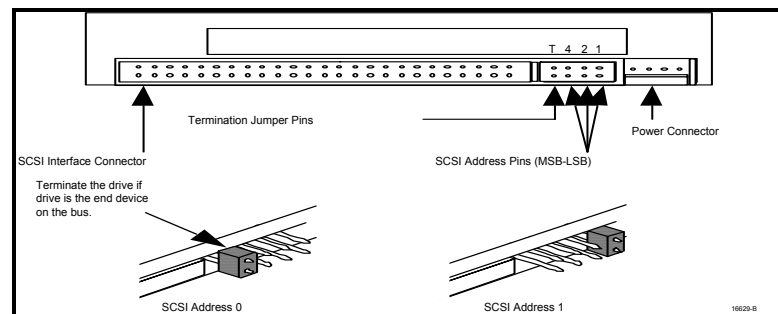

Figure 14-2 — Zip Drive SCSI Bus Pinning
Figure 14-2 illustrates the method of pinning the Zip drive. Pinning for SCSI bus addresses of one (1) and zero (0) are illustrated in the figure. By normal convention, the drive that is pinned for a SCSI bus address of zero (0) is the end device on the bus, and the termination jumper must be in place. Duplicate the pinning of the drive that is being replaced.
1	Verify that the replacement drive is correctly pinned for its application. See Figure 14-2.